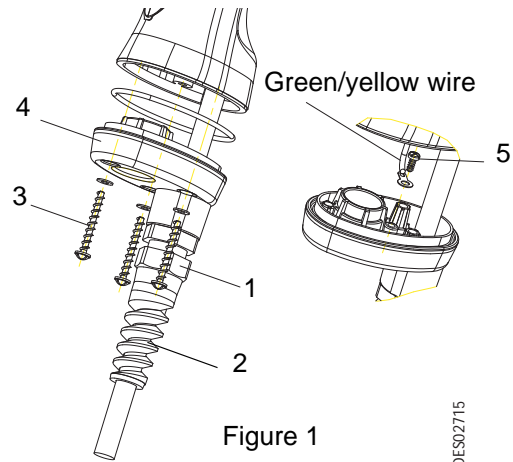

Figure 1
- **Stage 7:** Fix the green/yellow wire (item 4, figure 1) to the handle assembly base plate.
- **Stage 8:** Reassemble the base plate (item 3, figure 1); retighten the stuffing box to a torque of 3.5 N.m, it is necessary to loosen the strain relief on the stuffing box before proceeding with this operation. Tighten the strain relief on the stuffing box.